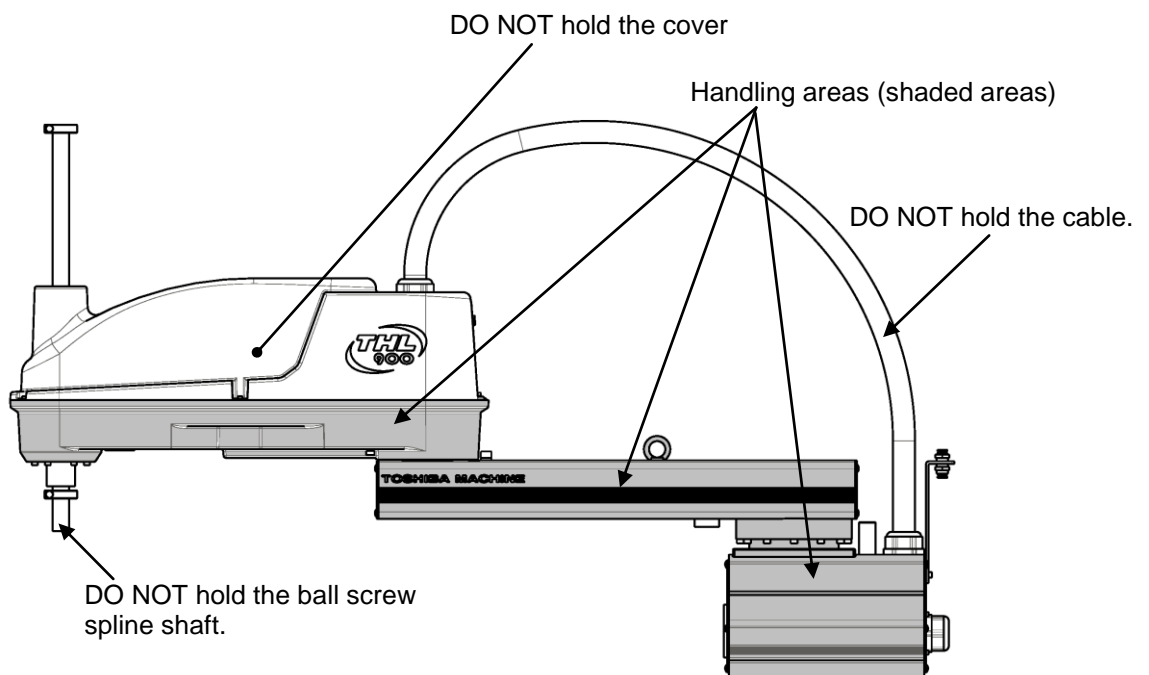

Fig. 6.8 Robot Handling Locations
- When lifting up the robot by workers, hold the locations (shaded areas) by hands as shown in Fig. 6.8. Holding the arm 2 cover, the cable and the ball screw spline shaft will apply excess force, possibly causing failure.
- The work should be performed by two (2) or more workers.